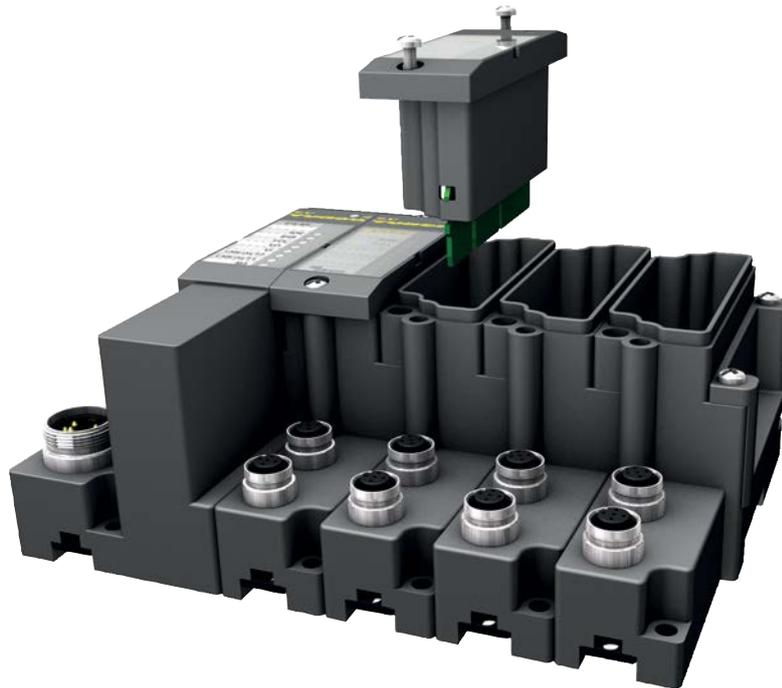

Fig. 16: Mounting BL67 electronic modules
- Push the electronic module evenly onto the base module as per Fig. 16.